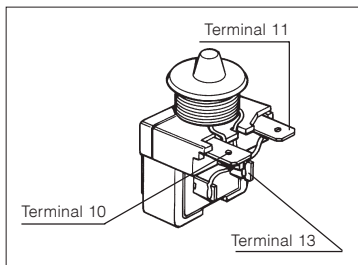

Figure 37 - Short relay without capacitor
- it does not have the copper wire bridge between terminals 11 and 13. The compressor, therefore, will only start if the corresponding capacitor is installed. In the start relay in figure 37, one power lead must be connected to the thermal protector (terminal 3) and the other to terminal 10 of the relay;